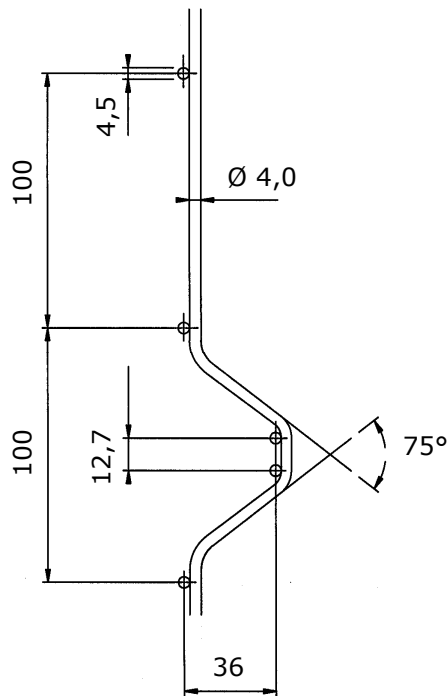

Figure 3
Dimension of the V-shapes: see fig. 3.
- depth : $36 \pm 2,0$ mm (see fig. 3)